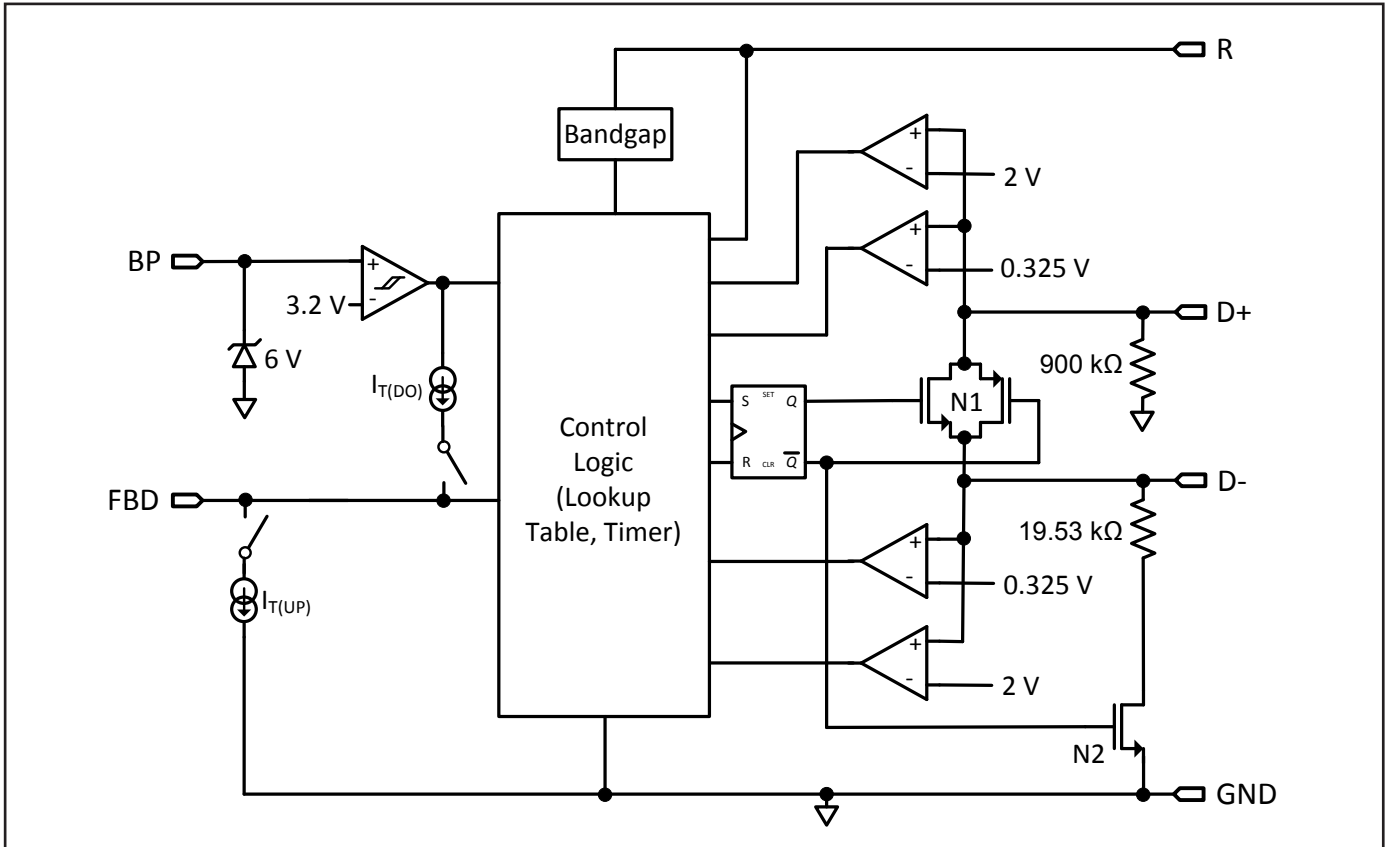

Figure 3. Functional Block Diagram.
At power-up SC0163D turns on switch N1 (see Figure 3) short-circuiting USB data lines D+ and D- for the initial handshake between
AC-DC adapter (DCP) and powered device (PD) as described in the USB Battery Charging specification revision 1.2. After the USB BC 1.2 handshake is completed, SC0163D will turn off switch N1 if it detects a Quick Charge 3.0 or Quick Charge 2.0 compliant PD. At this point the Quick Charge 2.0 handshake followed by the Quick Charge 3.0 handshake can take place as described in the Quick Charge 2.0 and Quick Charge 3.0 protocol specification. Upon completion of the Quick Charge 2.0 and Quick Charge 3.0 handshakes, SC0163D will turn on switch N2 (see Figure 3) connecting a 19.53 k $\Omega$  pull-down resistor to USB data line D-.
When the USB cable is unplugged the voltage level at D+ is pulled down by SC0163D's internal resistor (see Figure 3). Once it drops below 0.325 V SC0163D will enter default mode (switch N1 is on, switch N2 is off) and sets the default output voltage of 5 V.